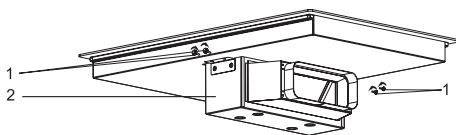

Fig. 38: Mounting the device on the cooking range
2. Complete installing the device using the 4 screws (Fig. 38/1).